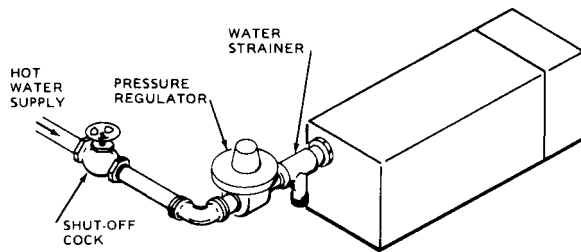

FIGURE 8 – TYPICAL INSTALLATION FOR HOT WATER SUPPLY
1. Install the water strainer (supplied) in the hot water line ahead of the water valve. See Fig. 8. The strainer protects the valves and washing jets from clogging.